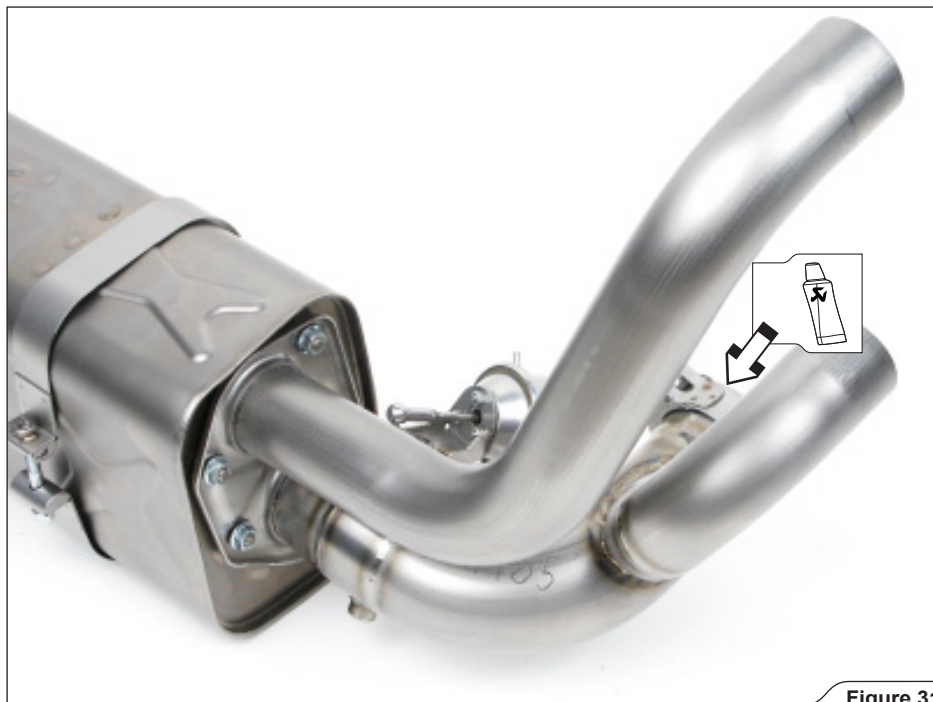

Figure 31
13. **For Evolution:** insert the link pipes into the central muffler (**Figure 31**). Repeat the process on both sides the muffler.